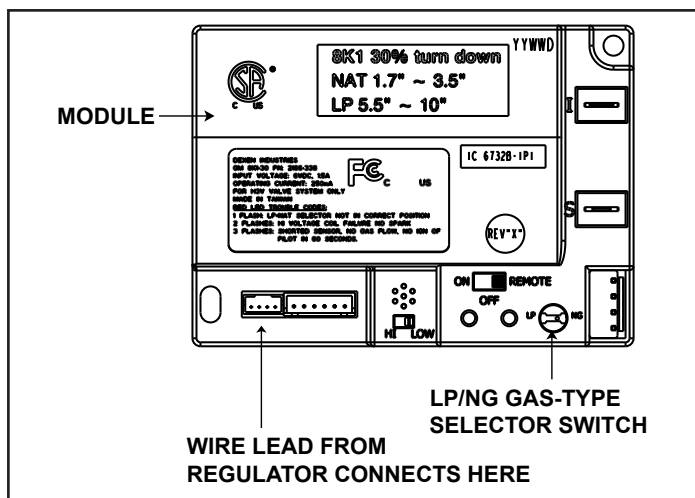

Figure 3.6 Control Module
This model has a variable burn rate which is controlled by the HI/LO switch on the control module. Therefore the flame height is adjustable. The HI/LO switch is shown in Figure 3.6. It is located in the control cavity of the appliance.
1. The control module has an ON/OFF/REMOTE selector switch that must be set. See Figure 3.6.
2. If using the wired switch in the control cavity with the module in REMOTE mode, the flame output can be adjusted with the HI/LO selector switch on the module. See Figure 3.6. Note that the flame HI/LO selector switch will become inactive once an optional remote control (RC200/RC300) is programmed to the control module. Note that the control module will always ignite the stove on HI and remain so for the initial 10 seconds of operation. If the HI/LO is switched to the LO position, the flame output will automatically drop to the lowest setting after the flame has been established for 10 sec. After this 10 second period, the flame can be adjusted from HI to LO with the switch.
- Locate the module selector switch. (See Figure 3.6).
- Wait five (5) minutes to allow possible accumulated gas to clear.